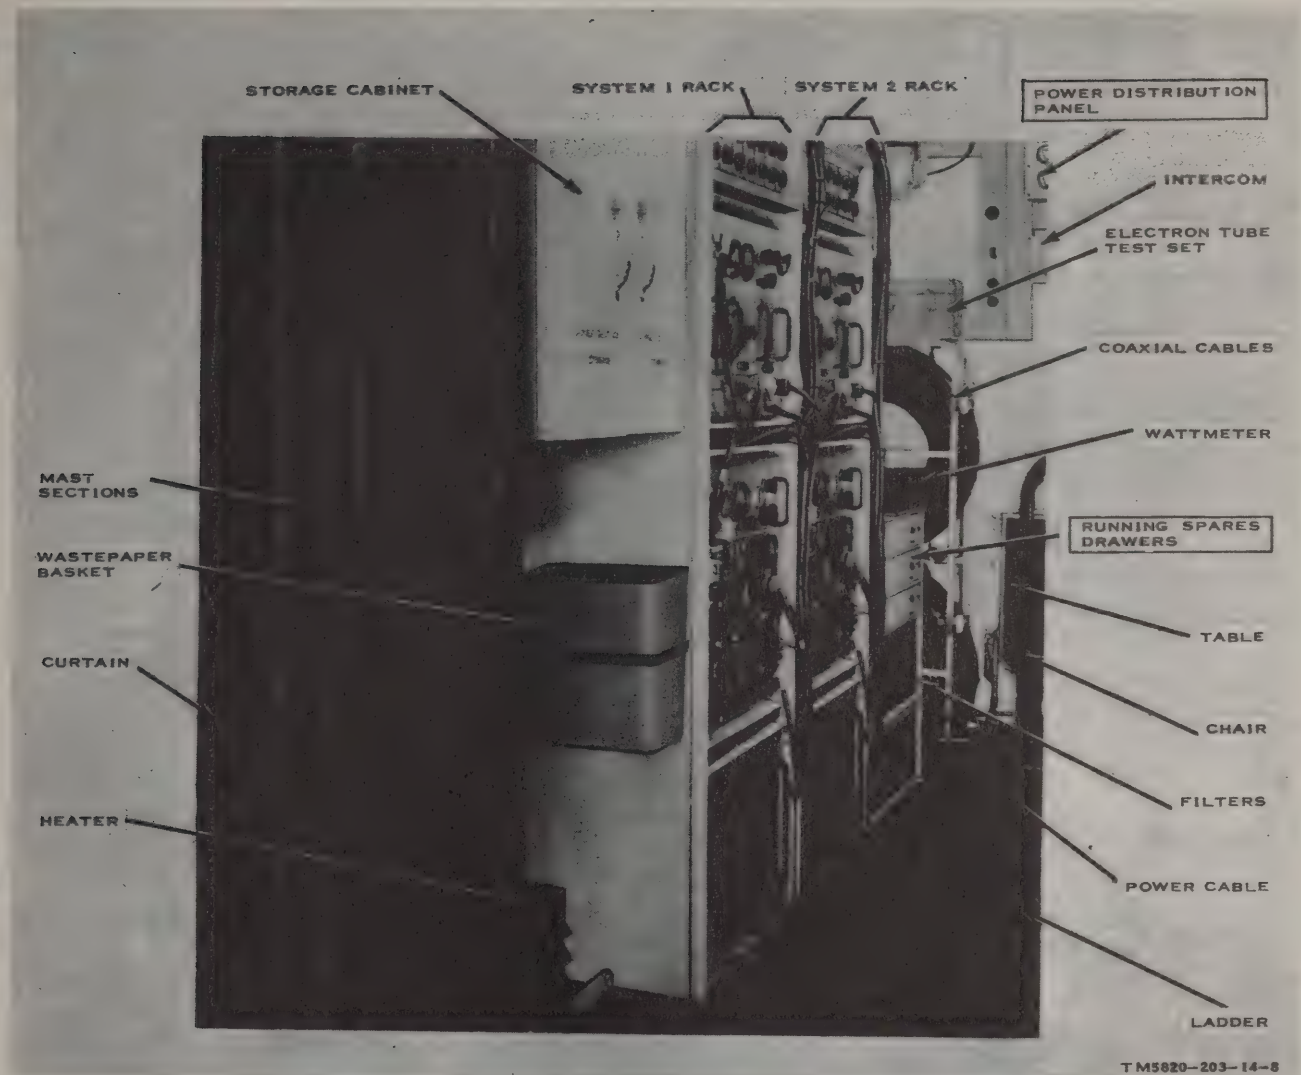

Figure 1-4. Repeater Set, Radio AN/MRC-54(V), interior view, roadside wall.
The AN/MRC-54(V) consists of Shelter, Electrical Equipment S-177(*)/MRC-54(V) (shelter facility) (fig. 1-3) and the communication equipment and miscellaneous components listed in appendix II. All external signal and power connections are made at the SIGNAL AND POWER ENTRANCE box. Figures 1-4, 1-5, and 6-1 show interior details of the AN/MRC-54(V). Refer to paragraphs 1-8 and 1-9 for a description of the shelter facility and the major equipment components.